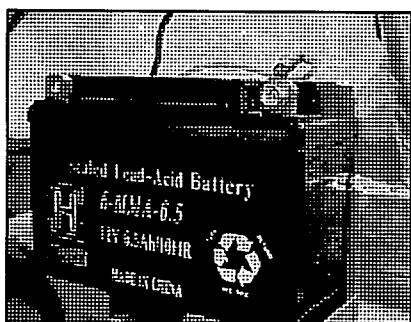

FIGURE 29
- Once battery is firmly seated in gray tray with rubber mat under it, attach the red positive wire to the red positive terminal on the battery. (see figure 29)